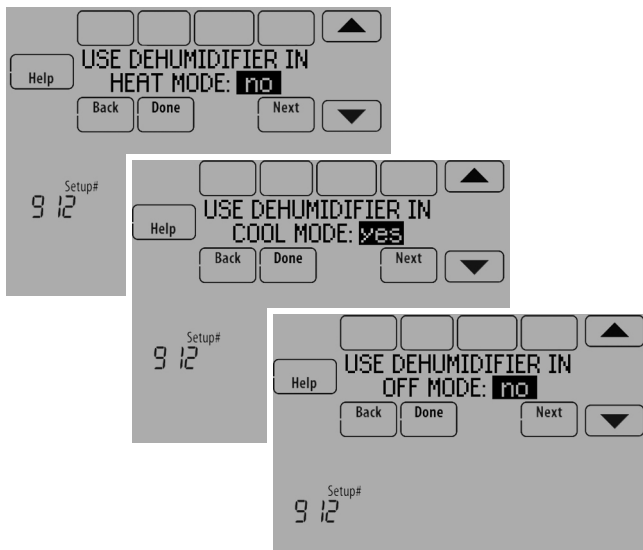

Fig. 198.
- Select the system mode(s) to allow dehumidification. See Fig. 198.